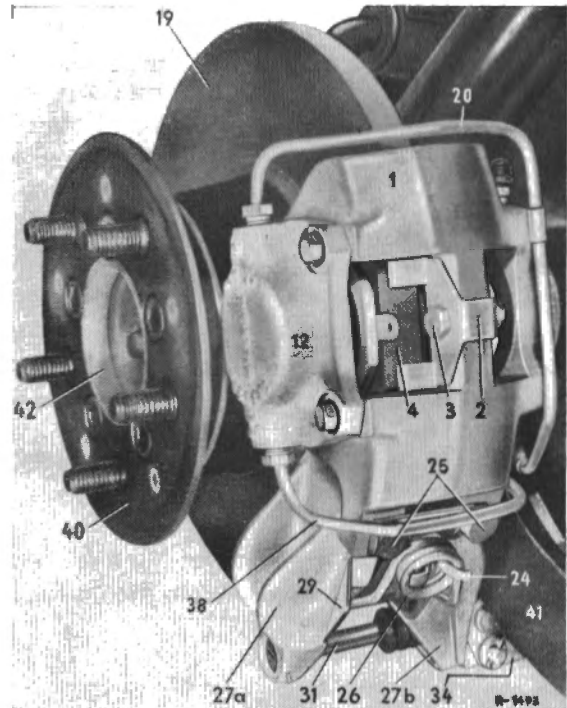

Fig. 42-11/6
6. Measure the run-out of the brake disk on the outer diameter (Fig. 42-11/6 and Job No. 42-0).